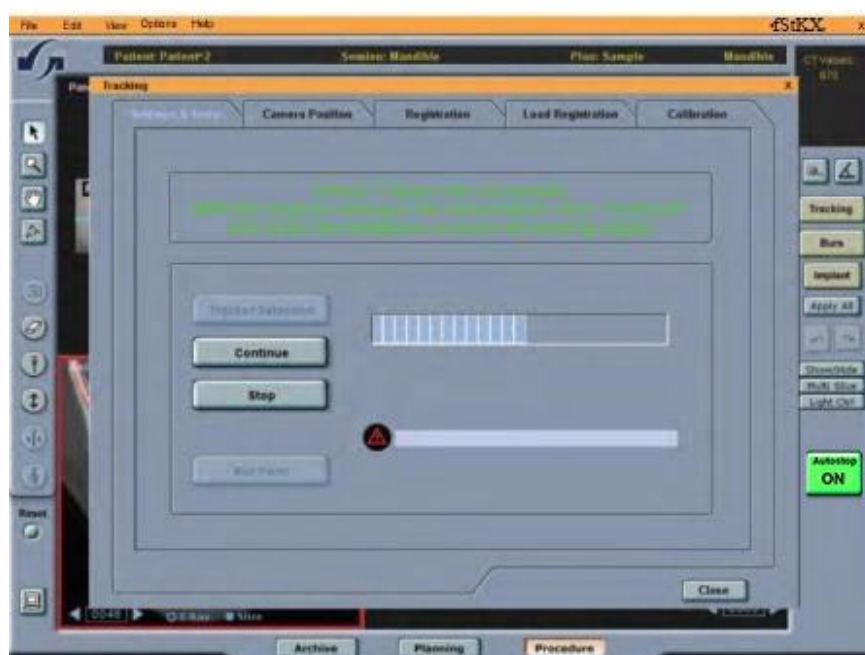

Figure 71: Patient Tracker Test Succeeded
2. Place the long bur tip in the round notch at 90 degrees to the top flat surface of the metal pole close to the Minilock™ tray, see **Figure 71: Performing Handpiece Functionality Test below**. Click Continue.